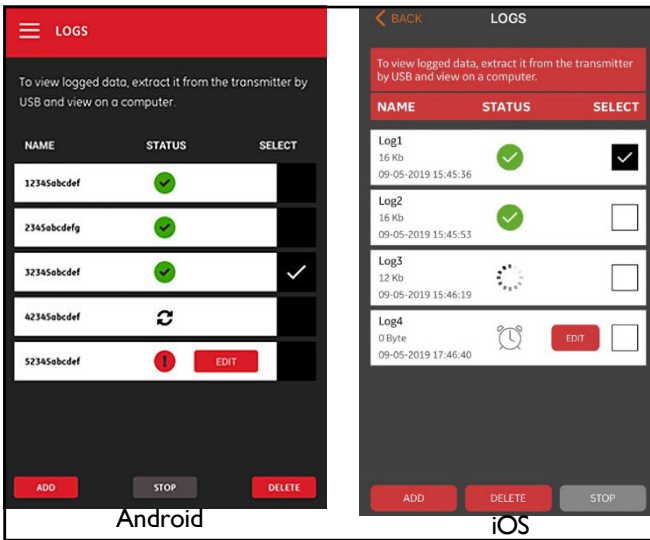

Figure 115: LOGS Main Menu
In the LOGS main menu (see Figure 115 below), all existing logs and their current status are listed. Each listed log may be edited, stopped or deleted, depending on their current status.
1. On the LOGS main menu (see Figure 115 on page 110), click in the SELECT column to the right of the log you wish to delete.
1. On the LOGS main menu (see Figure 115 on page 110), click in the SELECT column to the right of the log you wish to stop.
1. On the LOGS main menu (see Figure 115 on page 110), click in the SELECT column to the right of the log you wish to edit.